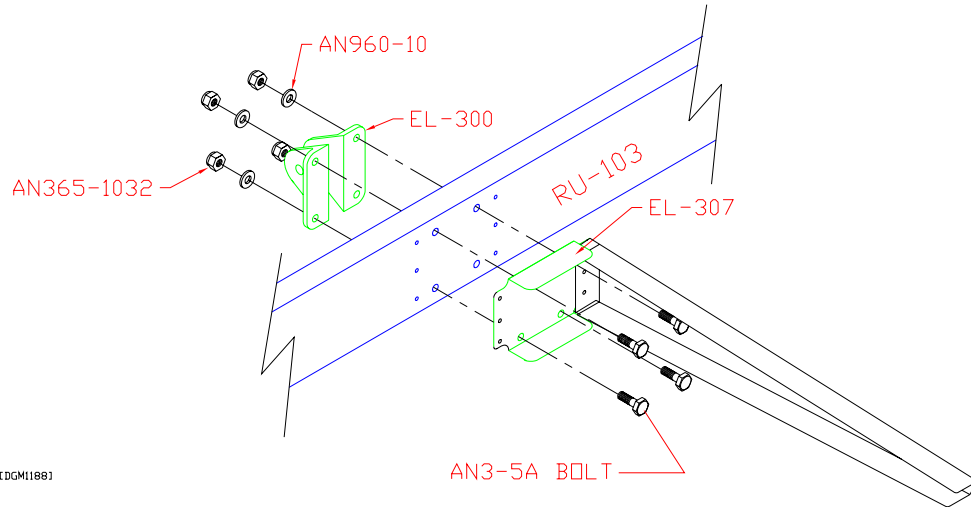

Figure 5.1.2
- 5) Drill all holes to #30, disassemble, debur, chromate and rivet the assembly using 1/8" (RV-1410) avex rivets. Bolt the Elev/Rud Hinges to the Spar using the prepunched aligning holes. Figure 5.1.2. **NOTE:** Do not drill or rivet the top two EL-403 Ribs at this time. The Rudder Balance Ribs will be installed later.